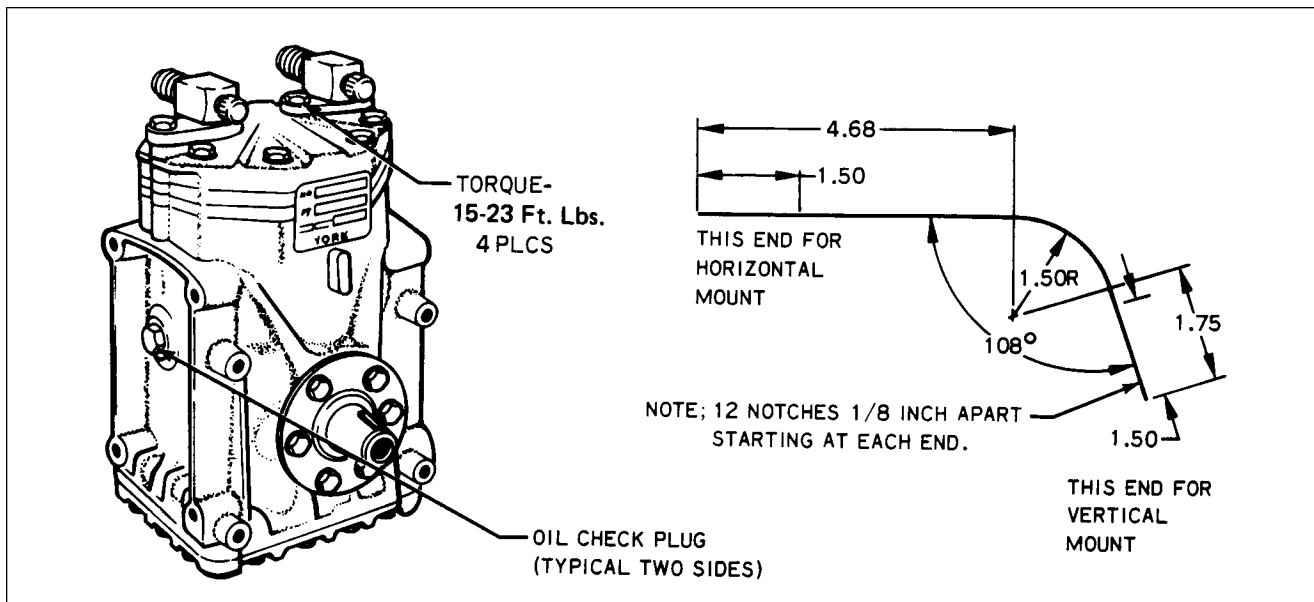

Figure 14-9. York Compressor and Fabricated Oil Dipstick (PA-28R-201)
- 2. Fabricate an oil dipstick. (Refer to Figure 14-9.)
- 4. Before inserting the dipstick, the crankshaft Woodruff key should be located in the up position. (The front face of the compressor clutch is marked with a stamped "K" indicating the key position.) The oil level should be measured from the lowest point in the crankcase. Use the long end of the dipstick. (See Figure 14-9.)